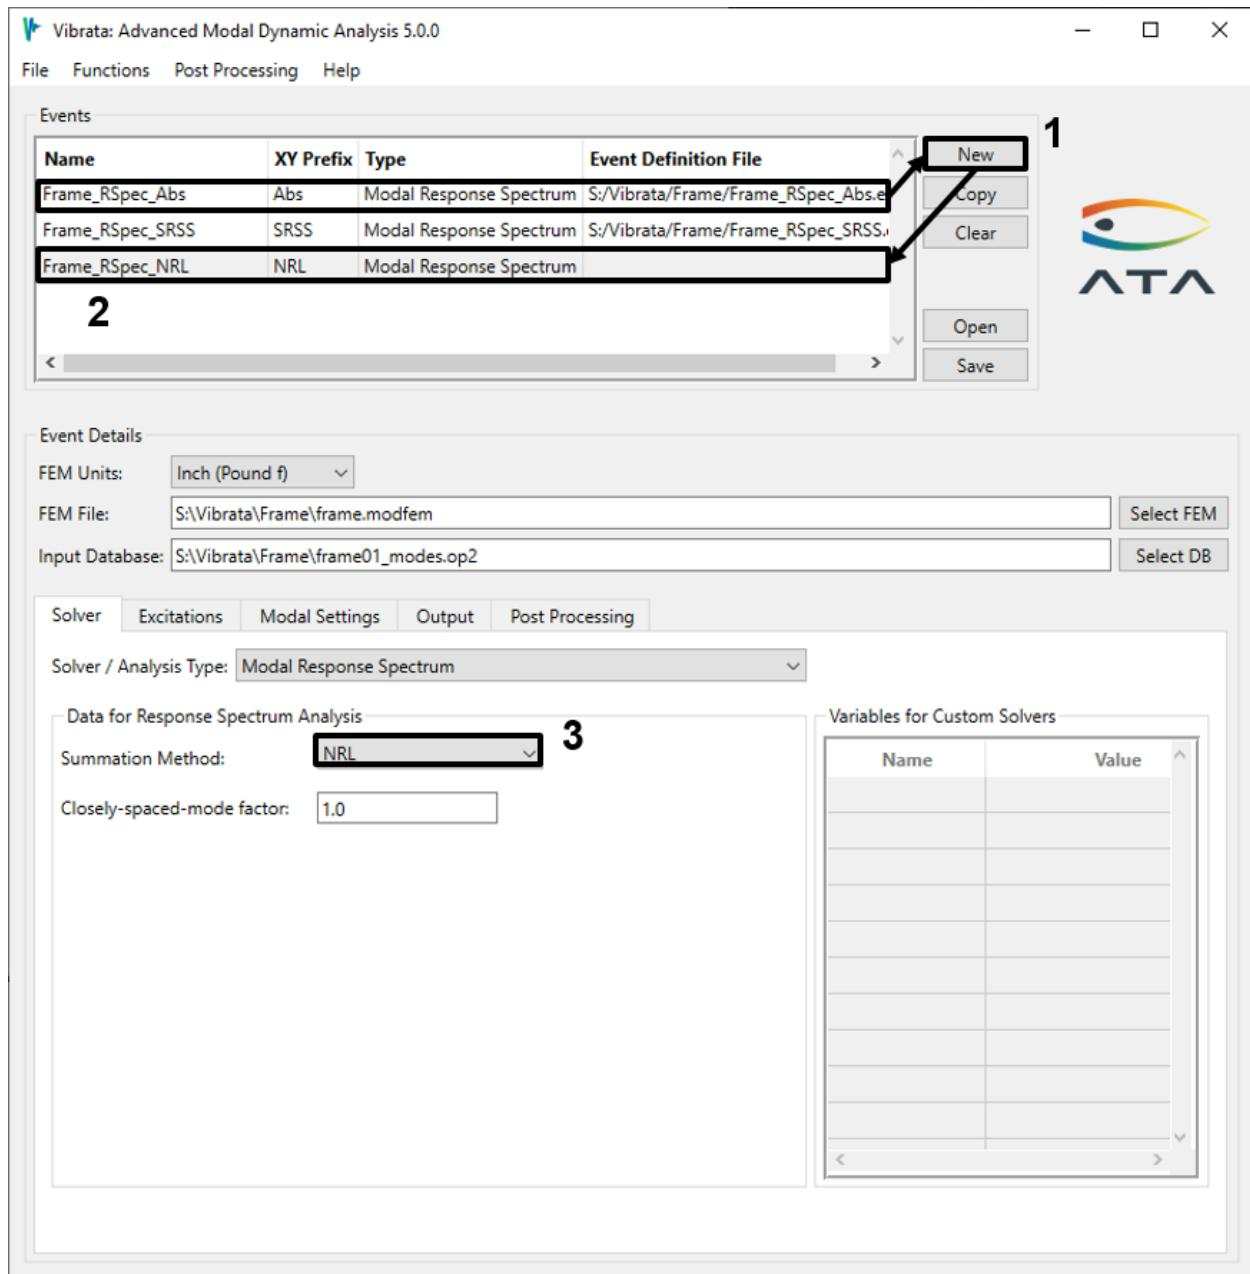

Figure 4-85. Copy again to create a third event using NRC 10%.
10. Copy the first event again. Change the summation method to *NRL* and set the Closely-spaced-mode factor to 1.1 (Figure 4-85). From Figure 4-82 you can see that the frequencies of modes 6 and 7 and modes 9 and 10 are within 10% of each other, so they will be considered closely spaced. Solve the event.